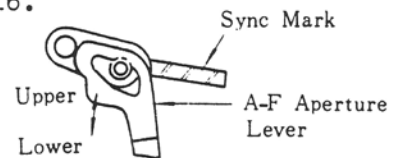

Fig 16
- (B) Adjustment of the Sync mark is to be made, after removing the finder cover (511), in the manner as shown in Fig. 16.